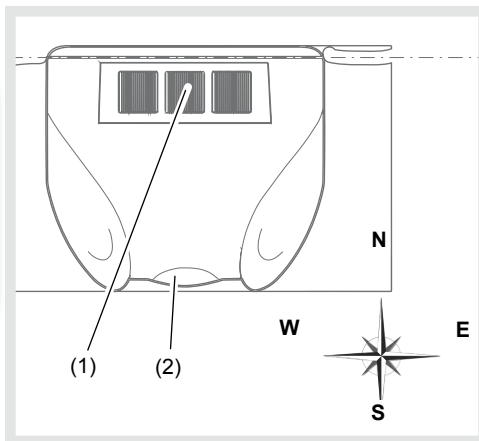

Figure 3: Aligning the device horizontally and to face south
- Horizontal installation on the outside of buildings (figure 3), preferably in the roof and facade area
- Use a compass to align the device to the south (figure 3).
- Use a spirit level to align the device horizontally (figure 3).